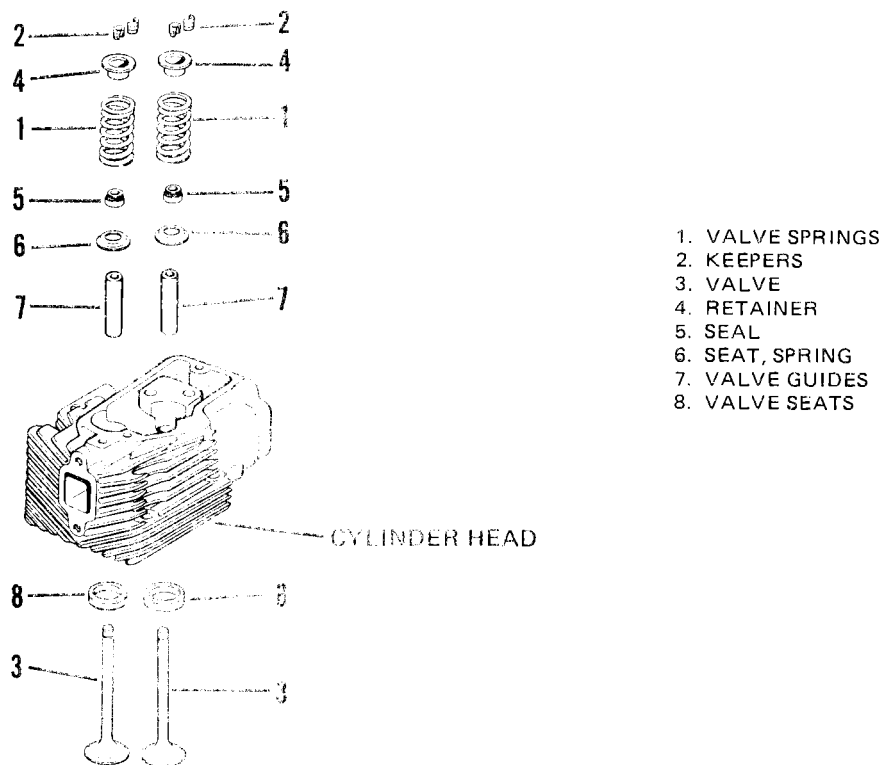

Figure 7-17. Valves.
- (1) Remove cylinder head, refer to paragraph 7-6.
- (2) Compress valve springs (1, Figure 7-17) with a valve spring compressor (refer to Table 2-1).